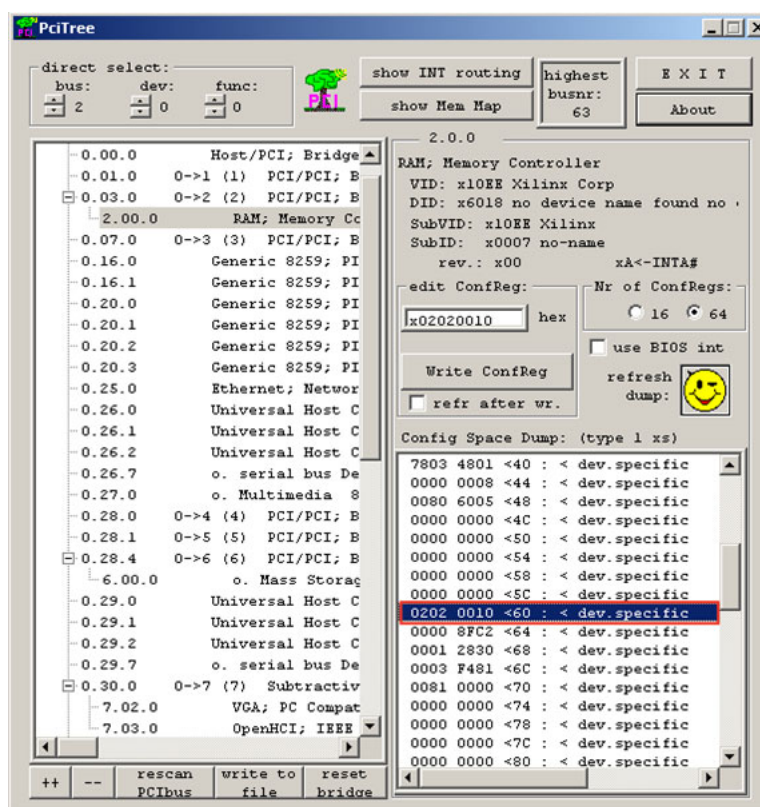

Figure 1-35: Select Register “0x60”
17. Select register 0x60 (as shown in Figure 1-35).